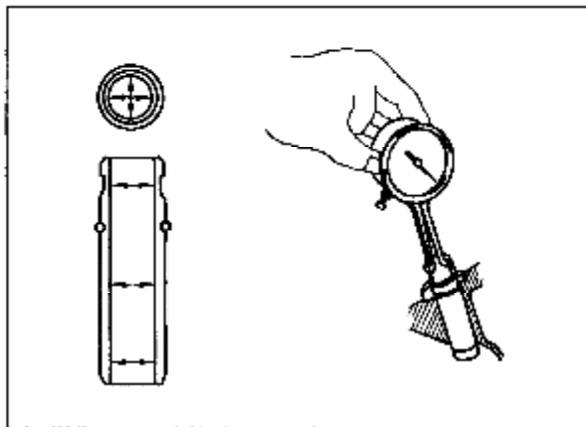
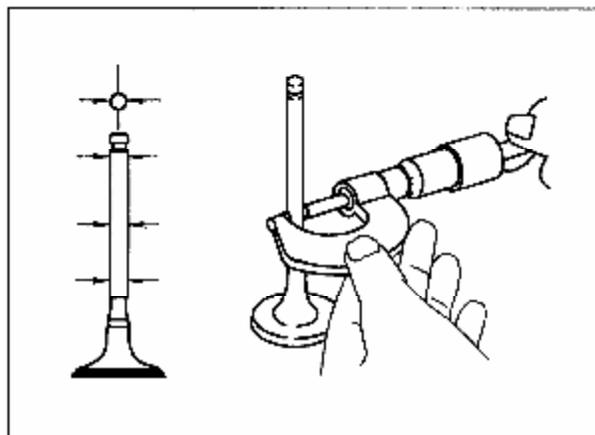

Figure 3-7 Check Diameter of Valve Guide
Figure 3-8 Check Diameter of Valve Stem
**3.1.7** Check the fitting clearance between valve stem and valve guide hole (see Figure 3-7, Figure 3-8)